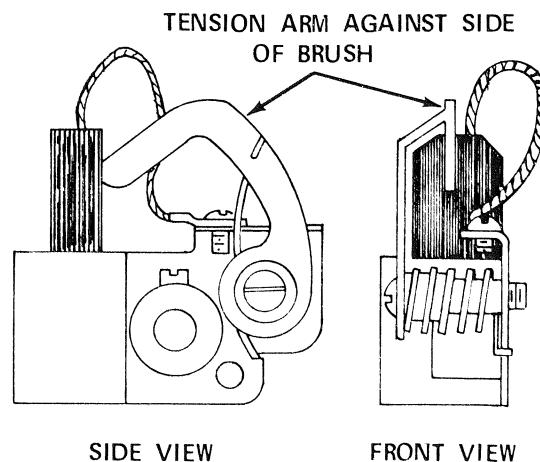

FIGURE 4-1 BRUSH RAISED IN BRUSH HOLDER.
4.7.2 Dirty brush holders, commutators, sliprings and brushes or brushes which are not properly "seated", or pitted sliprings will cause excessive brush sparking and poor commutation. Brushes can be raised in their holders for inspection or sanding of the sliprings or commutator as shown in figure 4-1.